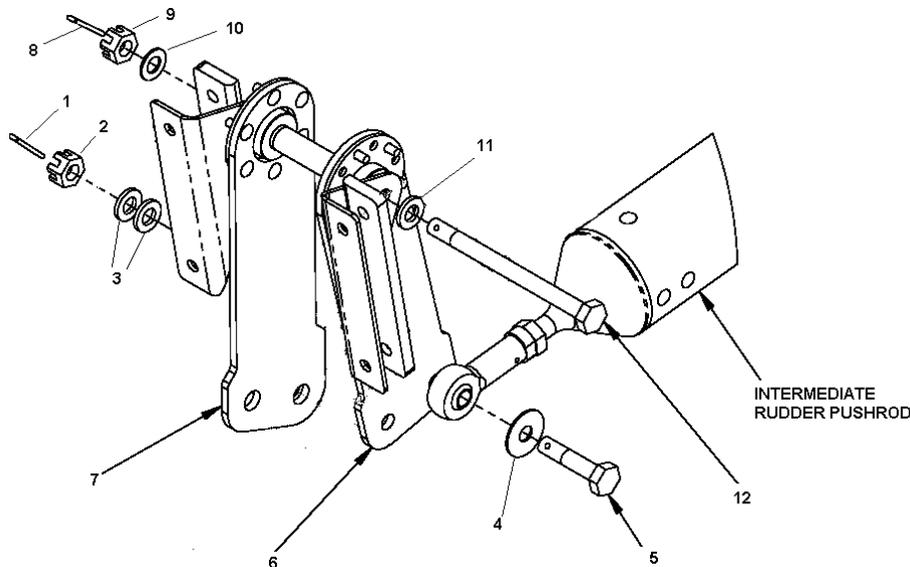
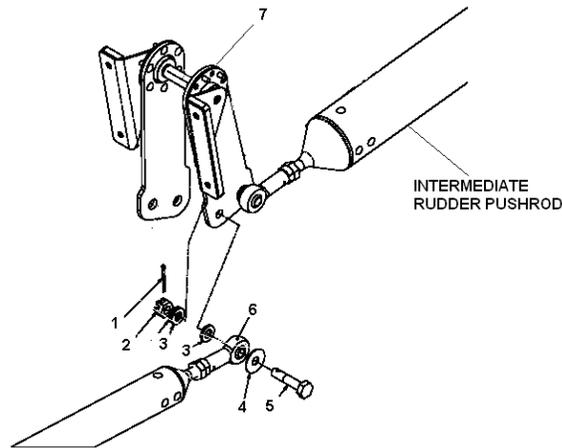

Figure 27-30 Intermediate Rudder Pushrod and Center Idler-plate
Figure 27-31 Connecting Fwd. Rudder Pushrod
2. See Figure 27-30. Place washer (11) onto bolt (12) and insert through rudder idler-plate (6), stabilizer idler-plate (7), and pivot point (not shown).
3. Install washer (10) and castellated nut (9). Torque the nut in accordance with Chapter 20 – *Standard Practices*.
4. Insert a new split pin (8).
5. Attach intermediate rudder pushrod to rudder idler-plate using bolt (6), washers (3 and 4), and castellated nut (2). Torque the nut in accordance with Chapter 53 - *Fuselage*.
6. Insert a new split pin (8).
7. See Figure 27-31. Attach forward rudder pushrod to rudder idler-plate using bolt (6), washers (3 and 4), and castellated nut (2). Torque the nut in accordance with Chapter 53 - *Fuselage*.
8. Insert a new split pin (8).